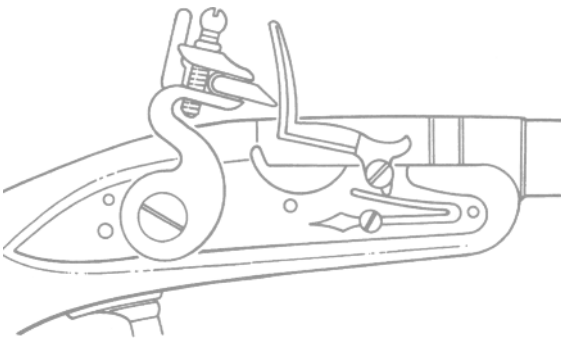

Figure 1.0.1 The flintlock.
1.0.2 The flintlock (Figure 1.0.1)